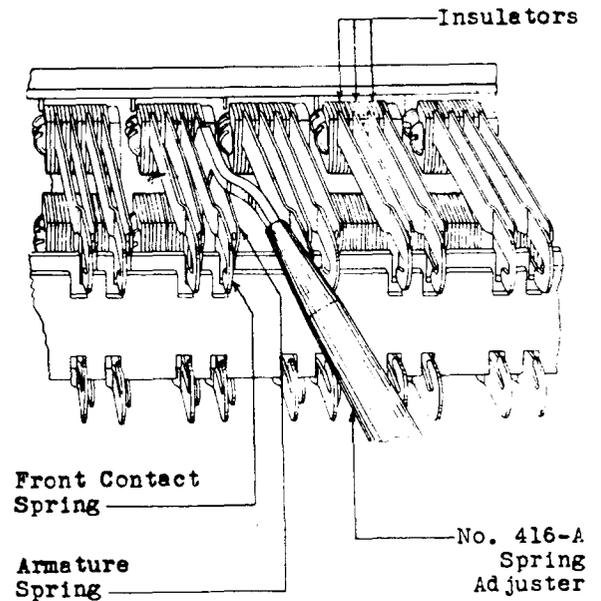

Fig. 22 - Method of Tensioning Armature and Contact Springs
(3) If the tension of the armature and contact springs is not satisfactory, correct this using the No. 416-A spring adjuster. Place the adjuster on the front end of the spring, but back of the contact, and then slide it back to a point approximately 1/4" from the spring assembly insulators as shown in Fig. 22. Adjust the springs to the right or left as required, exercising care not to disturb adjacent springs.
(4) If, after tensioning the individual armature springs to meet the minimum or maximum requirement, the combined tension requirement is not met, increase the opposing tension of the draw bar locating springs as outlined in (1) to meet the maximum combined tension or decrease the tension to meet the minimum combined tension.